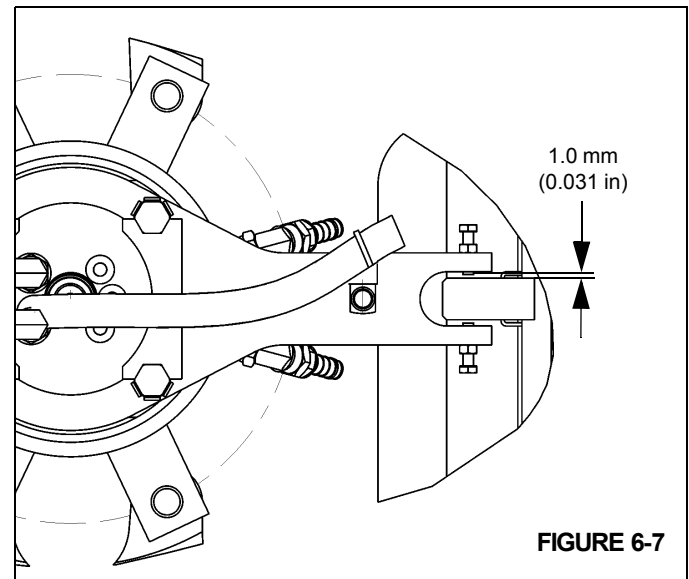

FIGURE 6-7
**NOTE:** Allow a 1/32' (1 mm) max gap between bolt and the retaining lug on the frame. Do not tighten bolt against lug (Figure 6-7).